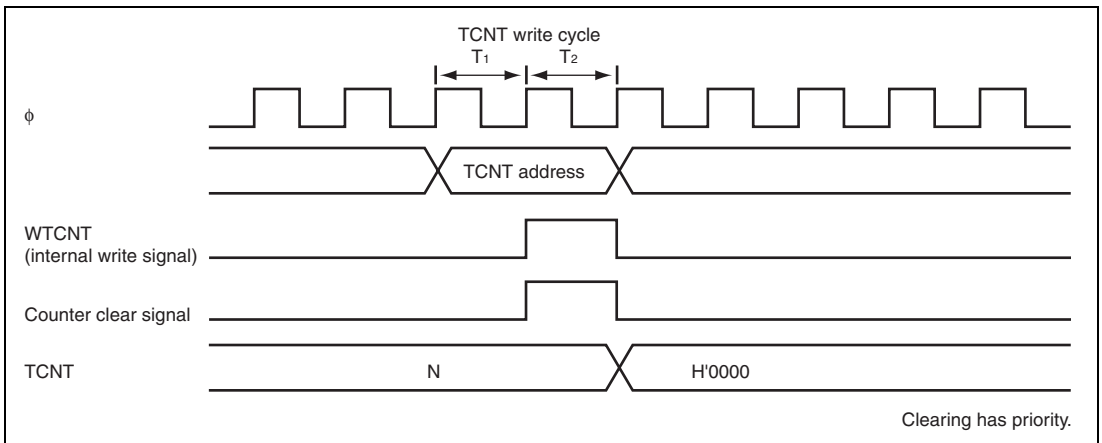

Figure 12.52 Contention between TCNT Write and Clear Operations
1. **Contention between TCNT Write and Clear Operations:** If a counter clear signal is generated in the T_2 state of a TCNT write cycle, TCNT clearing has priority and the TCNT write is not performed. Figure 12.52 shows the timing in this case.